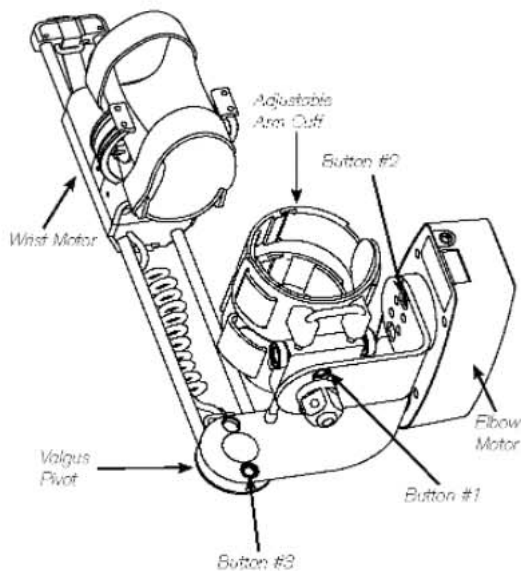

Fig. 2.9
- Depress blue buttons and rotate 180° as required in the following order. (See Fig. 2.9)
- Rotate Items 1), 2) and 3) through 180° from that shown in Fig. 2.9.